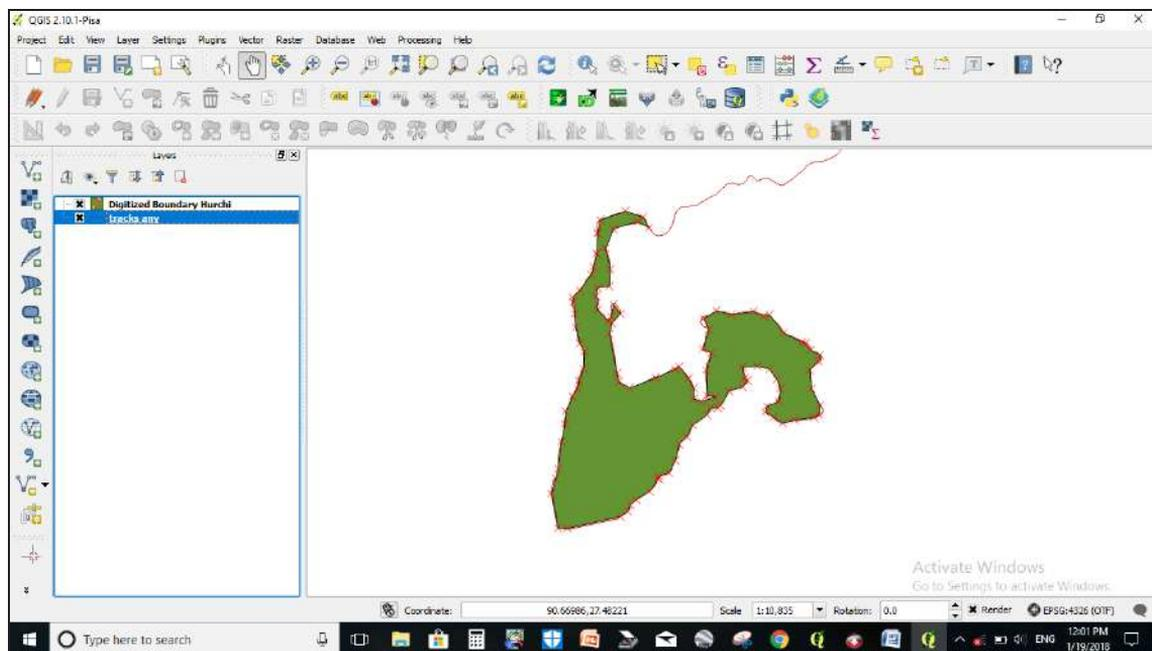

Figure 4g
h. Digitize the data using add new shape file layer as indicated in figure 4g below.